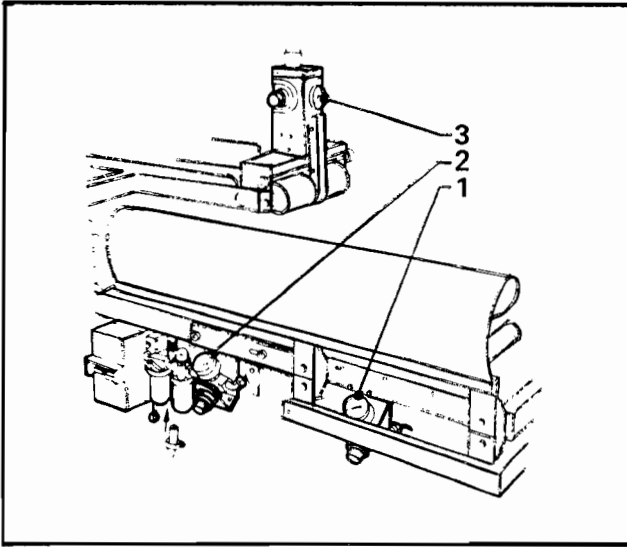

Figure 10 - Pneumatic Regulators
1. **Air Pressure Regulator** (Item 1, Figure 10) - Set nominally at 50 PSIG [3.5 Kg/cm² gauge pressure], but adjust according to weight of the boxes being sealed to provide adequate pressure to positively center the boxes, but low enough to allow easy pushing of the boxes under the top taping head. This operator function takes place with the side guides pressing against the box.
1. **"UP" Movement Air Pressure Regulator** (Item 2, Figure 10) - Set at 70 PSIG [5 Kg/cm² gauge pressure] to power the "up" movement of the top taping head.
2. **"Down" Movement Air Pressure Regulator** (Item 3, Figure 10) - Set nominally at 25 PSIG [1.8 Kg/cm² gauge pressure] to control "down" movement of top taping head and the top taping head pressure exerted against the box. The regulator setting is changed as necessary for the boxes being sealed to provide adequate top taping head pressure against the box to positively convey the boxes through the machine. If the boxes stop or hesitate while being conveyed, decrease the regulator pressure which will increase the top taping head pressure on the box for more friction between the box and drive belts. Adjust setting as necessary to get continuous movement of boxes through machine.